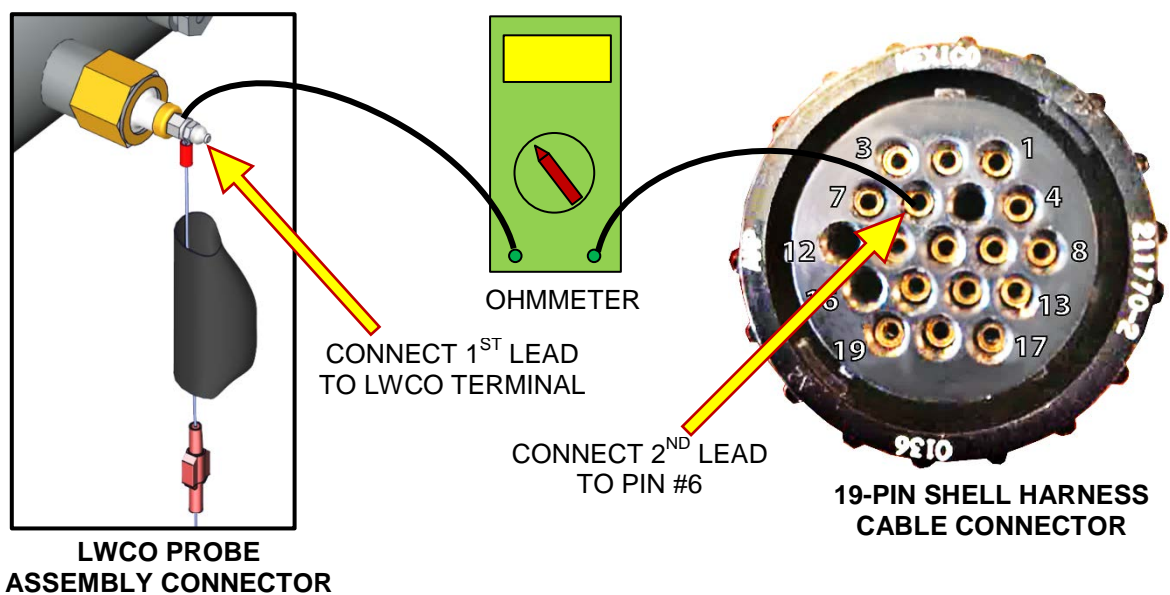

Figure 4-11: Connecting Ohmmeter between LWCO Probe & Shell Harness Cable
3. Using an ohmmeter, connect one ohmmeter probe to the LWCO capacitor terminal on the unit shell as shown on left in Figure 4-11.
4. Connect the second ohmmeter probe to Pin #6 of Shell Harness Connector (removed from the C-More Controller) as shown on right in Figure 4-11.